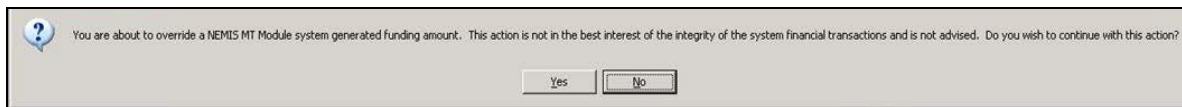

Figure 10-71: Recipient Admin Override acknowledgement message
11. If necessary to override the Recipient or Subrecipient Administrative amounts generated by the system, the user will be prompted to acknowledge the continuation of the override (Figure 10-71).